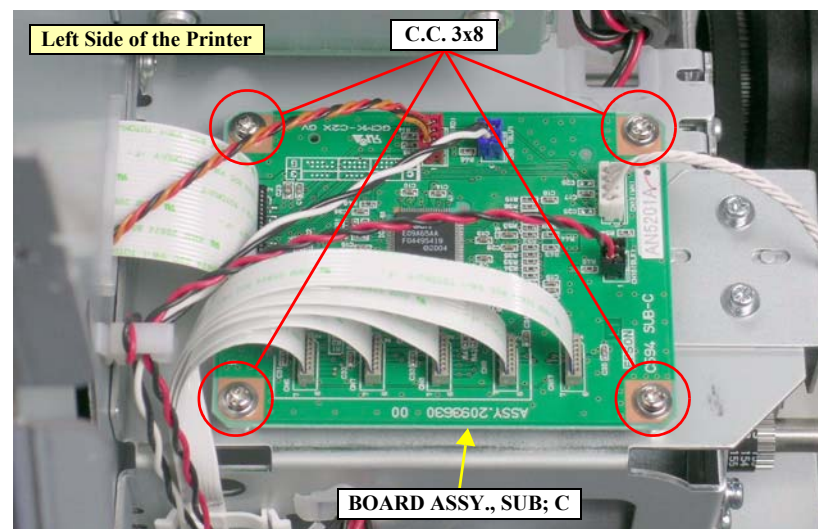

Figure 4-50. Removing the BOARD ASSY., SUB; C
3. Remove the four screws that secure the BOARD ASSY., SUB; C and remove it. *See Figure 4-50.*